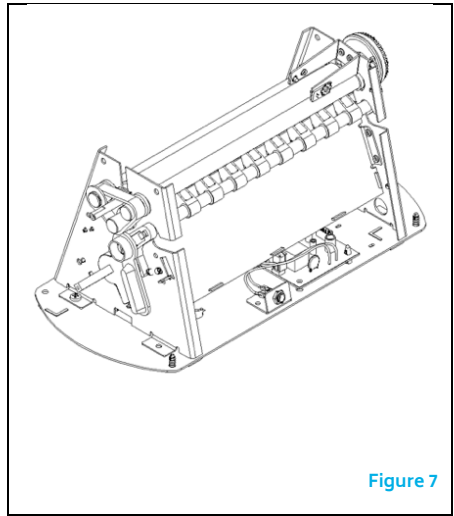

Figure 7
8. Locate and remove both of the roller drive belts found at either ends of the steel rollers (Figure 7). To clean the roller drive belts, place both belts onto a clean cloth and spray the belts with MY Office Products Rubber Roller Cleaner and Rejuvenator. Wipe the belts dry and reinstall.